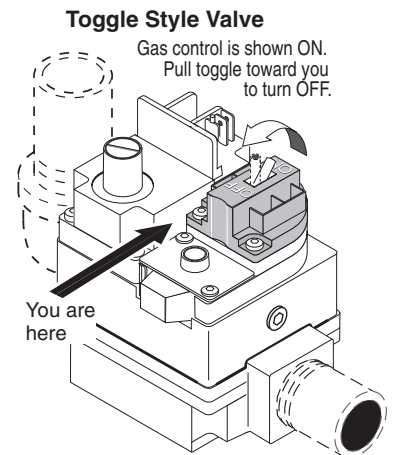

Figure 38.
6. **Toggle-Style Valve:** Pull toggle toward you to turn gas off, see Figure 38.
7. Wait five (5) minutes to clear out any gas. If you then smell gas, **STOP!** Follow “B” in the “Before Start-up” instructions (page 38). If you don’t smell gas, go to the next step.
4. **Toggle-Style Valve:** Pull toggle toward you to turn gas off, see Figure 38.